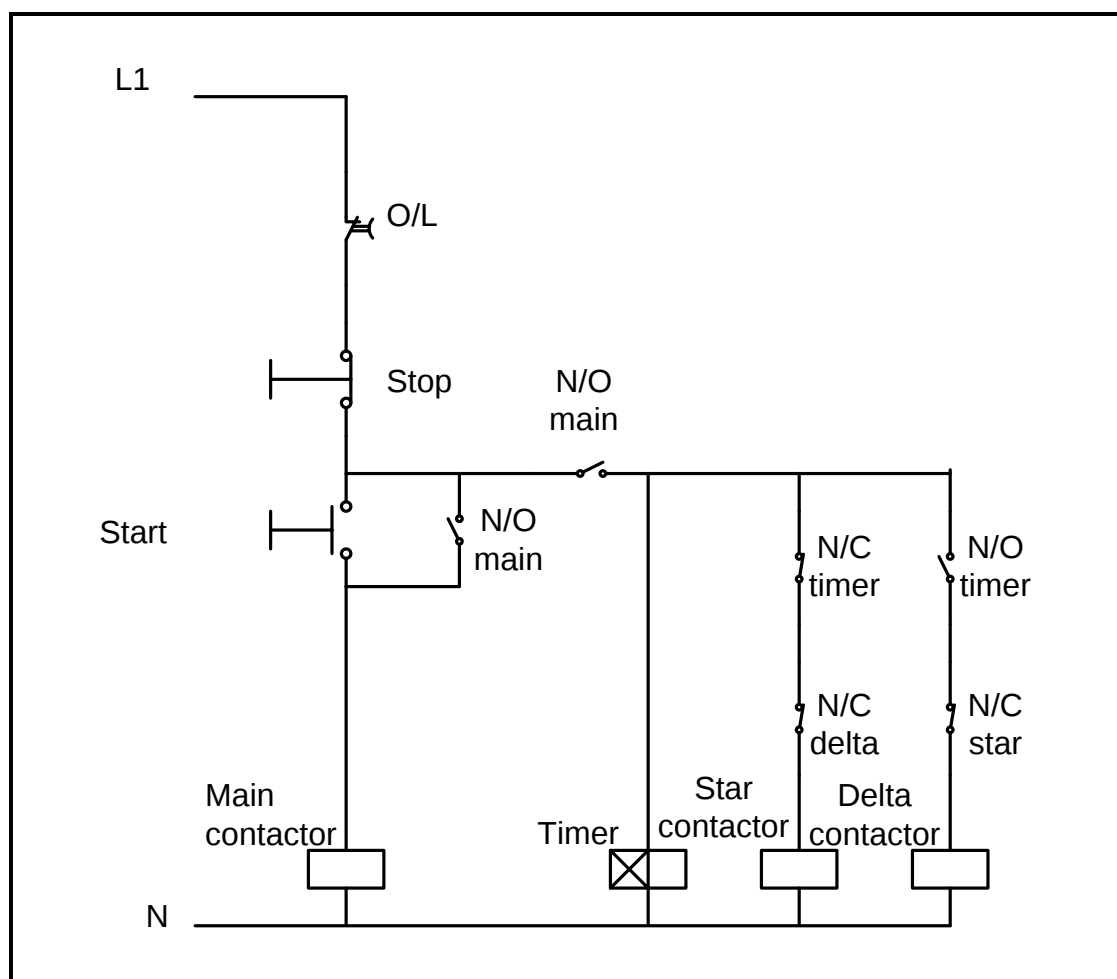

FIGURE 7.5
7.5 Refer to the FIGURE 7.5 below and answer the questions that follow.